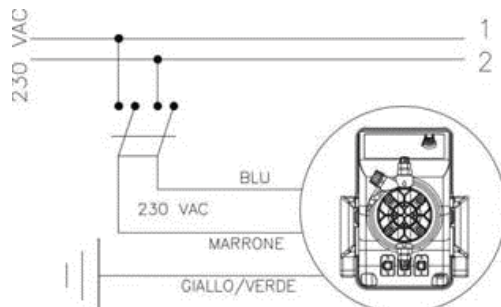

Fig. 4
1. ***Disconnect the pins from the mains or by means of a two poles switch with 3 mm minimum distance between the contacts. (Fig. 4).***
1. *Disconnect the pins from the mains or by means of a two poles switch with 3 mm minimum distance between the contacts. (Fig. 4).*
- b.** - Carefully observe the regulations in force in the various countries as regards electrical installations (Fig.4). **When the supply cable is devoid of a plug, the equipment should be connected to the supply mains by means of a single-pole circuit breaker having a minimum distance of 3 mm between the contacts. Before accessing any of the electrical parts, make sure that all the supply circuits are open.**